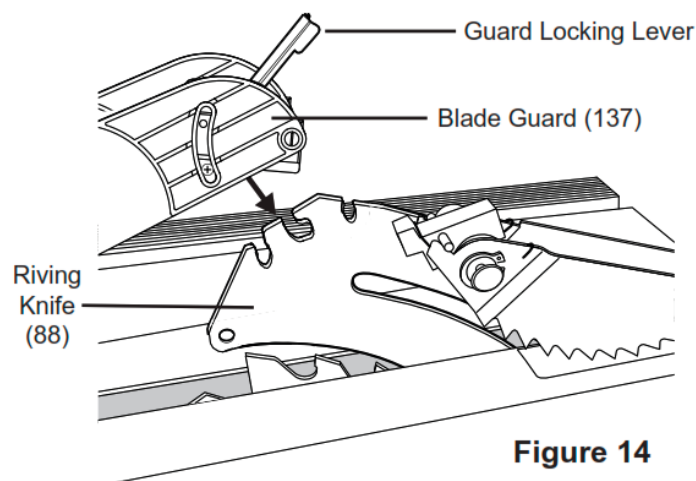

Figure 14
1. Set the Blade Guard against the top of the Riving Knife so that the Rollers slide into the slot at the top of the Riving Knife. See Figure 14.